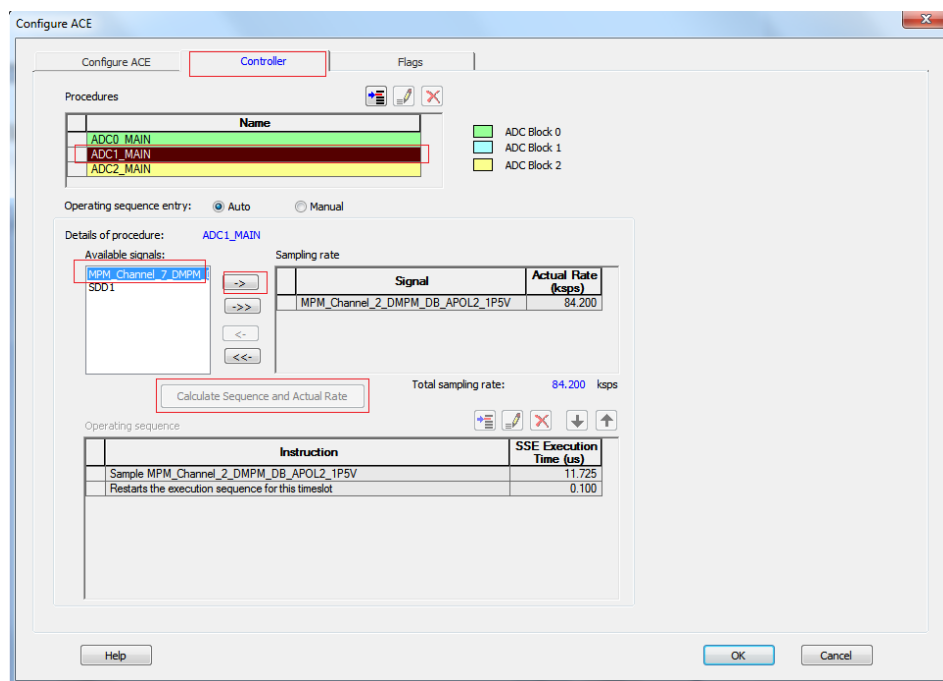

Figure 20 • Controller Tab of ACE Configurator
7. After assigning the pin value, click the **Controller** tab. Then click ADC1_MAIN in the Procedures box. As shown in Figure 20 on page 18, open the **Controller** tab in ACE configurator to configure Sample sequencing. The Sampling Sequence determines the order in which analog channels are sampled for a particular ADC.
The **Operating sequence entry** can be specified as **Auto** or **Manual**. Select **Auto**. As shown in Figure 20, the **Available signals** list shows the signals that are assigned to a specific ADC. You can use this list of signals to indicate which one you want to sample in Auto mode by moving these signals to and from the **Sampling rate**. Click on the ADC<n>_MAIN in which the newly added signal is and move it from the **Available signals** list to **Sampling rate** table. Click **Calculate Sequence and Actual Rate**. This creates a basic round robin sequence of your selected signals. Click **OK**.